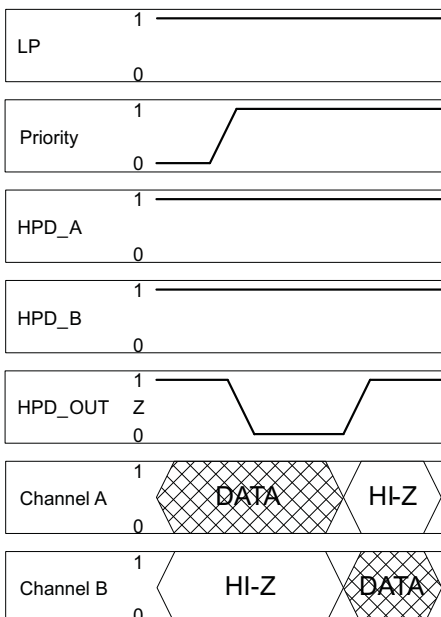

Figure 46.
- Case two: In this case both HPD inputs are HIGH. Changing the state of the priority pin when both HPD inputs are high forces the device to switch which channel is selected. When a state change is detected on the priority pin, the device waits for a short period of time $t_{T1(HPD)}$ before responding (see Figure 46). The purpose for this pause is to allow for the priority signal to settle and also to allow the device to ignore potential glitches on the priority pin. Once $t_{T1(HPD)}$ has expired, the HPD output is forced LOW for $t_{T2(HPD)}$ and the device follows the chain of events outlined in scenario 3 case 2.